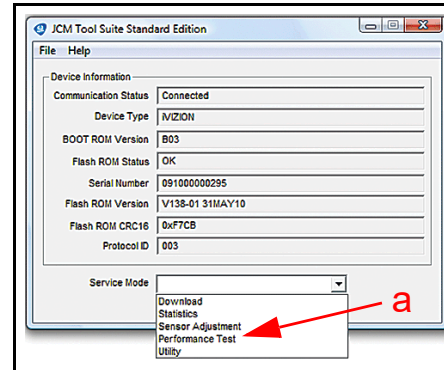

Figure 6 Typical Connected iVIZION JCM Tool Suite Screen
The JCM Tool Suite will be used to complete functional and sensor testing of an iVIZION Unit. Figure 6 illustrates a typical connected iVIZION JCM Tool Suite Screen with the "Service Mode" drop-down Menu active. To begin a Performance Test proceed as follows:
1. Select "**Performance Test**" from the drop-down Menu (Figure 6 a).